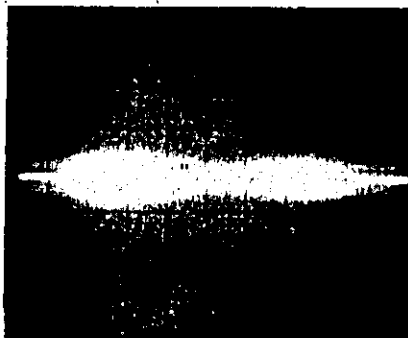
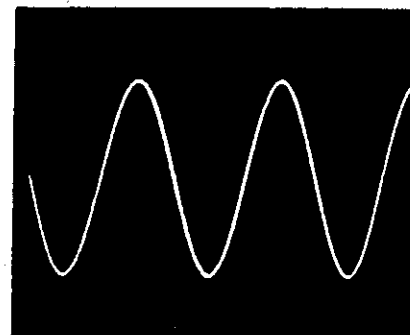

Figure 3-5. Single-shot trace bloom caused by INTENSITY and/or PERSISTENCE set too high.
Figure 3-6. Single-shot display with INTENSITY and PERSISTENCE set the same as Figure 3-5.
- f. BLOOM — A visible, non-symmetrical expansion of a display written on the CRT screen, Figure 3-5.
Trace blooming, Figure 3-5, is the best indicator of excessive INTENSITY which can damage the CRT. However, blooming does not occur in the CONV mode. Therefore, do not increase intensity when in CONV mode. Always be sure to repeat above procedure each time sweep speed or input signals change.
3-28. To write with persistence or store a single-shot phenomena, trial setting of INTENSITY is the best approach. The amplitude of the phenomena and the sweep-time required to display it will affect the persistence. For example, with maximum PERSISTENCE and some settings of INTENSITY, a single-shot straight-line trace may bloom as shown in Figure 3-5, while a single-shot signal with amplitude variations of several divisions may not cause blooms (Figure 3-6). To determine the best INTENSITY setting, connect a signal